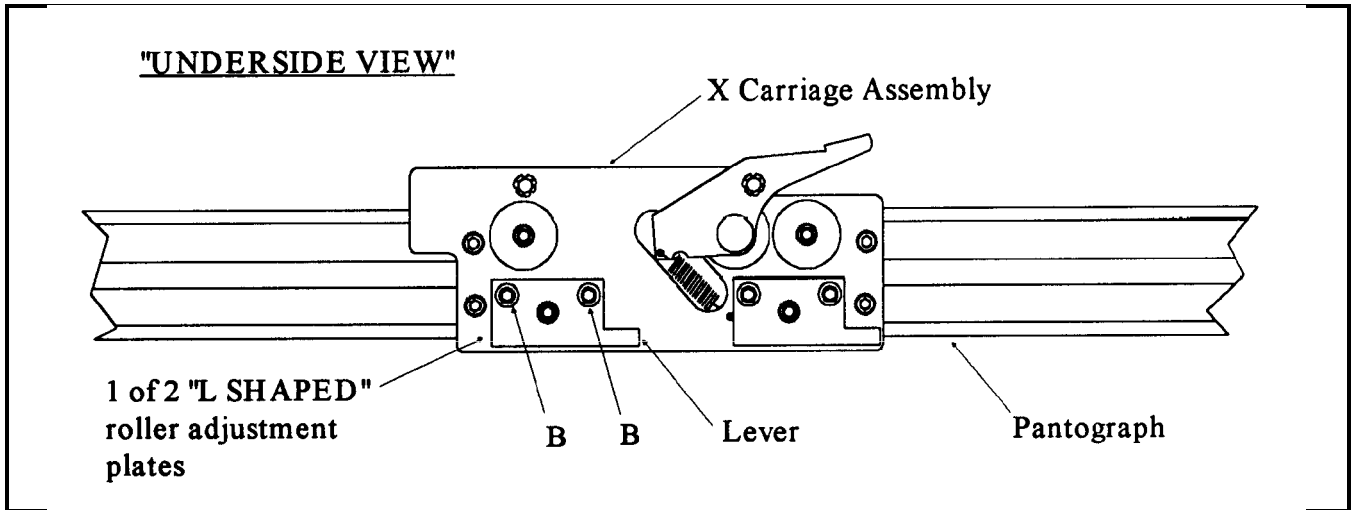
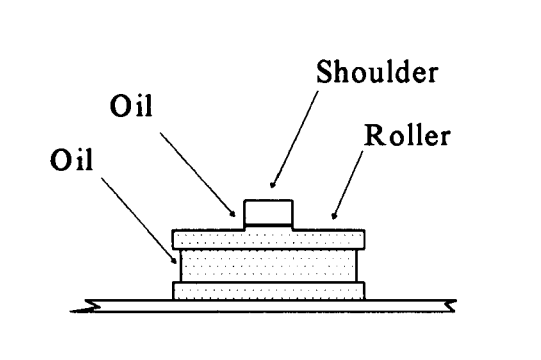

Figure 2
Figure 5
3. Remove the two socket head cap screws (B) from each of the "L SHAPED" roller adjusting plates under the X carriage (See Figure 2). Allow the roller adjustment plates to come out of the X carriage into your hand. This will allow the X carriage to drop out of the pantograph.
13. Add a drop of machine oil between the two shoulder screws and the two rollers, then add a drop of oil on the two rollers (See Figure 5). Then reinstall the X carriage into the pantograph as it was before.
14. On each of the "L SHAPED" roller adjusting plates add a drop of oil between the shoulder screw and the roller, then on the roller (See Figure 5). Then install both of the roller adjusting plates onto the X carriage with the existing socket head screws (B), and tighten down just enough to move the roller adjusting plates back and forth (See Figure 2).
15. Adjust the tension on the roller plates, one at a time. Push the lever toward the back of the machine until it stops. Apply light pressure to the lever when tightening the two screws (B) (See Figure 2). This adjustment will take the play out of the X carriage, so the carriage travels left to right smoothly.